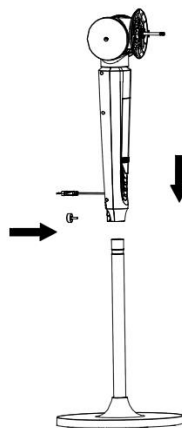

Figure 2
2. Put the fan body onto the column tube and fix them with the adjustment screw (Figure2).